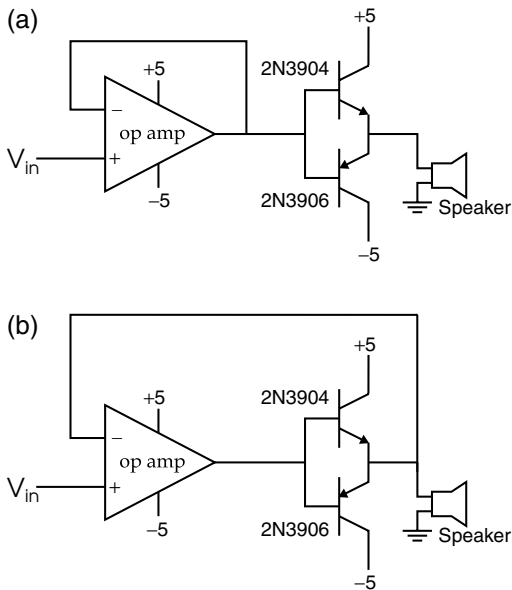

Fig. 8.9. Op amp follower with push–pull output-buffer power driver with two feedback arrangements: (a) feedback before and (b) feedback after power driver.
- ▷ First hook up the circuit of Fig. 8.9(a) to see crossover distortion in action. This circuit is susceptible to noise, so be neat and orderly and keep the leads as short as possible. Use an audio-frequency sine wave, in the vicinity of 1 kHz.
- ▷ Rearrange the feedback loop to include the push–pull driver inside it (Fig. 8.9(b)), and compare the input and output waveforms again. What does the signal at the op amp output look like, and why?